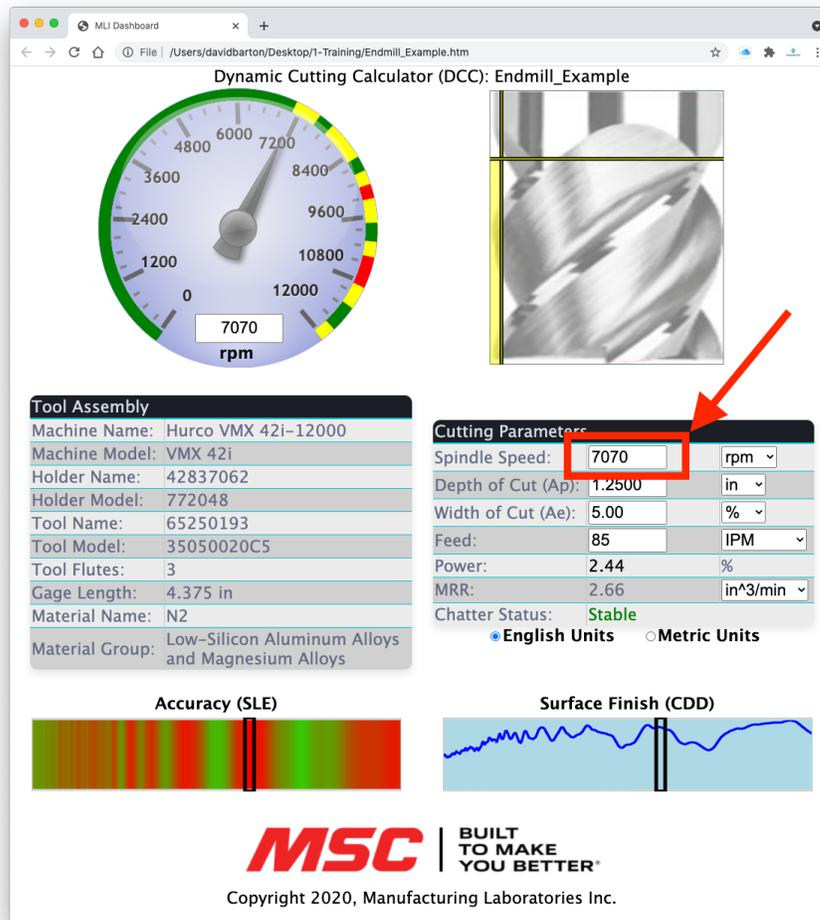

Figure 1a - Determine the Process Damping SS transition, PD_{SS}
As shown in Figure 1a, set the Dashboard to the tool's maximum depth (A_p) of cut adjust the width (A_e) of cut so that there are clear stable (green) and unstable (red) regions of speed. If only green and yellow (conditionally stable) zones show, keep reducing the width of cut until red zones appear. Dial the Spindle Speed (SS) to the lowest stable zone, and determine the SS where the Vibration Indicator bar transitions from Stable (green) to Conditionally Stable (yellow) or Chatter (red), 7070rpm in this example.